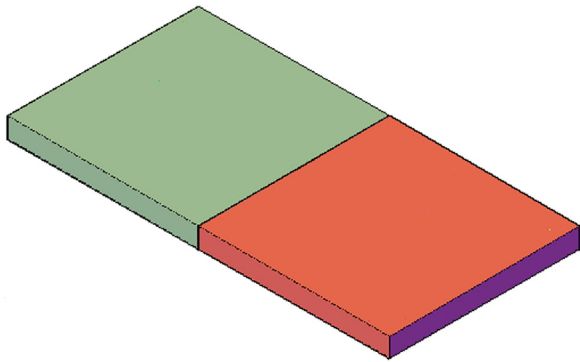

FIGURE 22.8
Step 5. This is similar to the 2D version of the mirror command. Press Enter for the default. The mirrored image appears as shown in Figure 22.8.